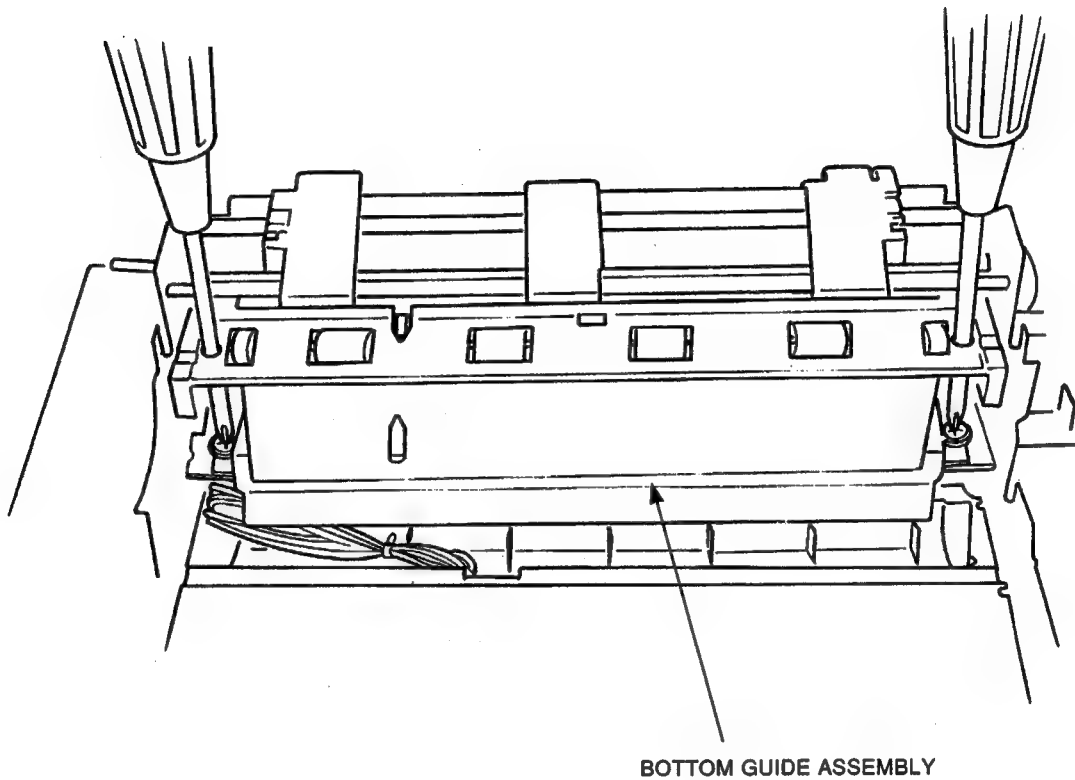

Figure 3-36 Bottom Guide Assembly
1. Remove two screws by inserting the screwdriver into the holes on the both left and right side of the paper guide (see Figure 3-36).